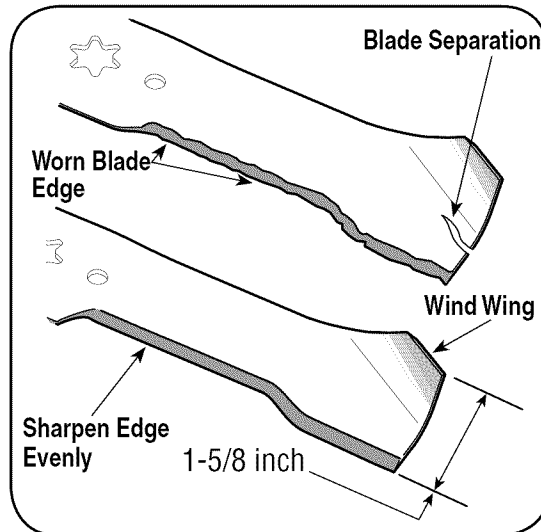

Figure 24
**IMPORTANT:** If the cutting edge of the blade has already been sharpened to within 1 5/8" from the edge, or if any metal separation is present, replace the blades with new ones. See Figure 24.